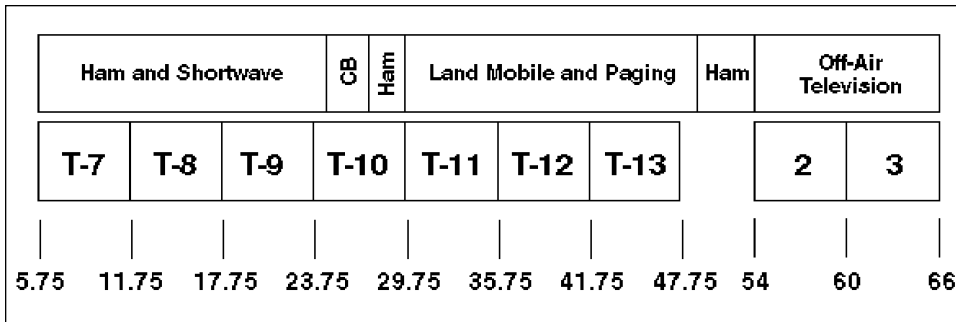
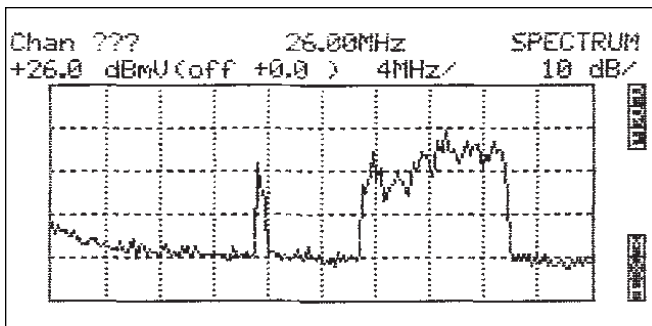
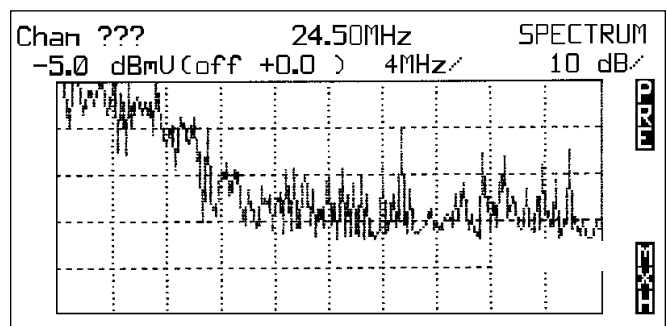

Figure 1. Frequency Allocation Spectrum for the T Channels and possible sources of ingress from other authorized users.
Figure 2. Return Path from 6 to 46 MHz displaying Telephony and Data Carriers.
Figure 3. Ingress distortion.
Figure 1 shows the T channels and the off-air signals found in the 5 to 47 MHz return band. The T channels carry data, live or tape delayed RF video signals for schools, government agencies, and similar institutions. In many HFC architectures the facilities that once utilized the T channel frequencies are now using dedicated fibers directly to the Headend for downstream retransmission. This method allocates more of the return band spectrum for digital carriers used for new services such as: Telephony (see Figure 2), Cable Modems, and Digital Video Services.
- **Ingress** is defined as the entry of unwanted and interfering signals into the coax plant (see Figure 3). The most common sources of ingress are the many known off-air radio frequencies (see Figure 1) that share the same spectrum.
the return spectrum – wanted signals as shown in Figure 1, and unwanted signals as shown in Figures 3, 4, and 5. The ingress found at this test point is your reference as you move down the branch. The spectrum display should either be stored or printed for making comparisons. To store the display, just press the STORE button and then the F1 button. To print, connect a compatible printer to the RS232 port and hold the ESC key until the RFM151 begins to beep. Once interference has been observed on the return test point, proceed to the node that is feeding the optical receiver.